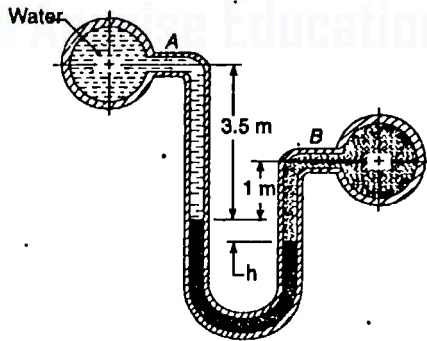

Fig. 2-31.
3. A differential manometer is connected to two pipes as shown in Fig. 2-31. The pipe A is containing water and the pipe B is containing an oil of specific gravity 0.8. Find the difference of mercury levels, the pressure difference in the two pipes be 80 kPa. [Ans. 426 mm]